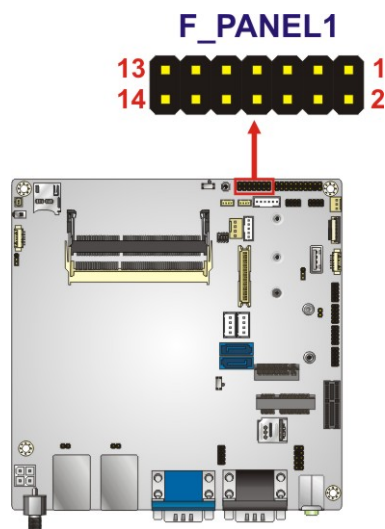

Figure 3-9: Front Panel Connector Location
- CN Location:** See **Figure 3-9**